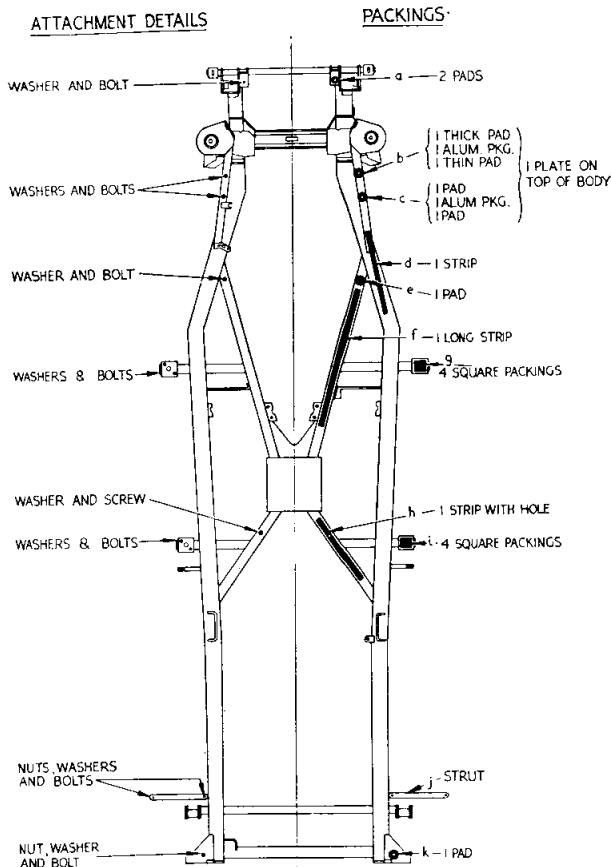

Fig. 1 Body Mounting Points. For clarification the attachment details and packing are shown on one side only.
1. BODY MOUNTING POINTS (Fig. 1)
- (f) Ensuring that the hand brake is on, the body can be lifted when the securing bolts or screws as shown in Fig. 1 have been withdrawn.
- (a) New packing pieces as detailed in "Body Mounting Points" (page 1) should be used and positioned on the chassis frame as shown in Fig. 1, a smear of "Bostick" C or similar compound to adhere packings to chassis will assist this operation.
- (c) It may be considered desirable to feed guide pins through the extreme front and rear mounting points of the body before lowering it to the chassis. Attachment bolts and screws are shown in Fig. 1.